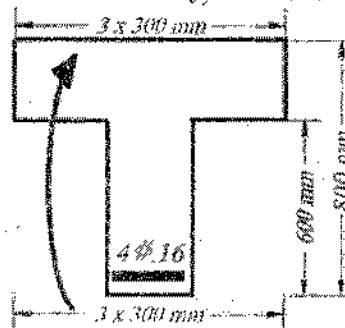

Fig. 1
b) Calculate M_{cr} in Fig.1 ($f_{cu}=35 \text{ N/mm}^2$ - $f_y = 350 \text{ N/mm}^2$)